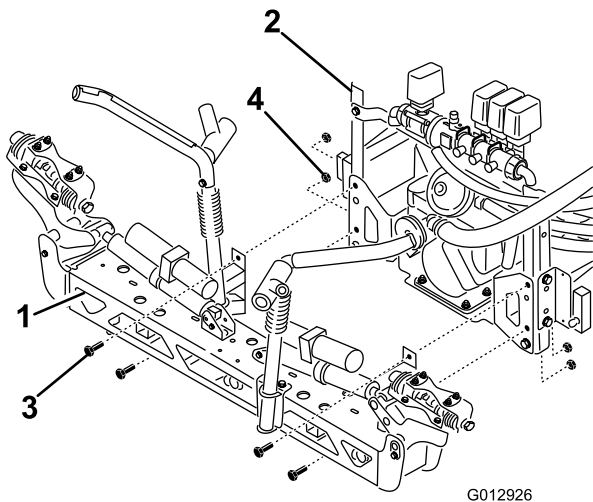

Figure 29
3. Mount the center boom assembly to the spray system assembly at the boom frame mounts as shown in Figure 29 with 4 bolts (1/2 x 1-1/4 inches) and four lock nuts (1/2 inch).